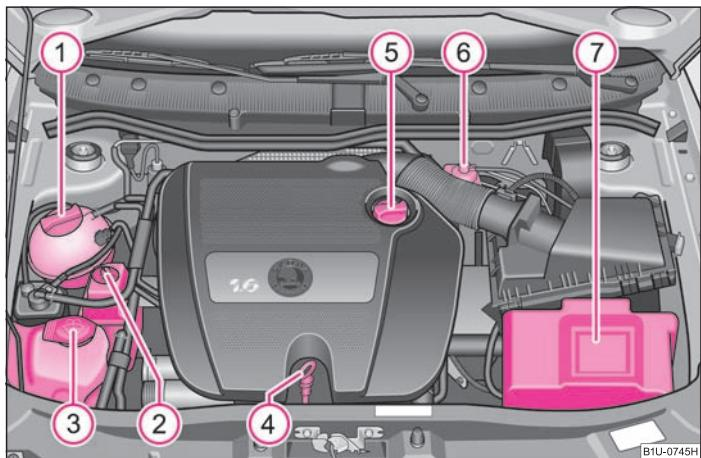

Fig. 145 1.6 ltr./75 kW petrol engine
1.6 ltr./75 kW petrol engine ⇒ fig. 145
The reservoir for hydraulic oil of power steering is located in the front right of the engine compartment → page 149, fig. 145.